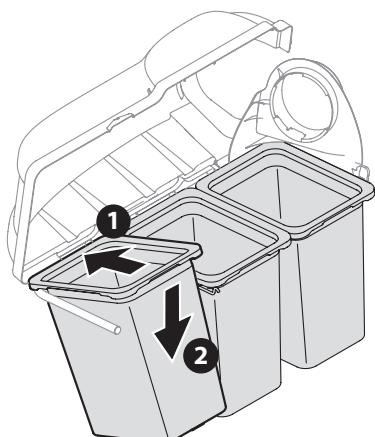

Figure 15
9. Install the grass bag assembly (3) (664-05104), with the tight mesh panel facing the tractor, onto the bag support brackets by inserting the front edge in first (1), as shown in Figure 15, and setting the back edge down (2) until it fits into the assembly.